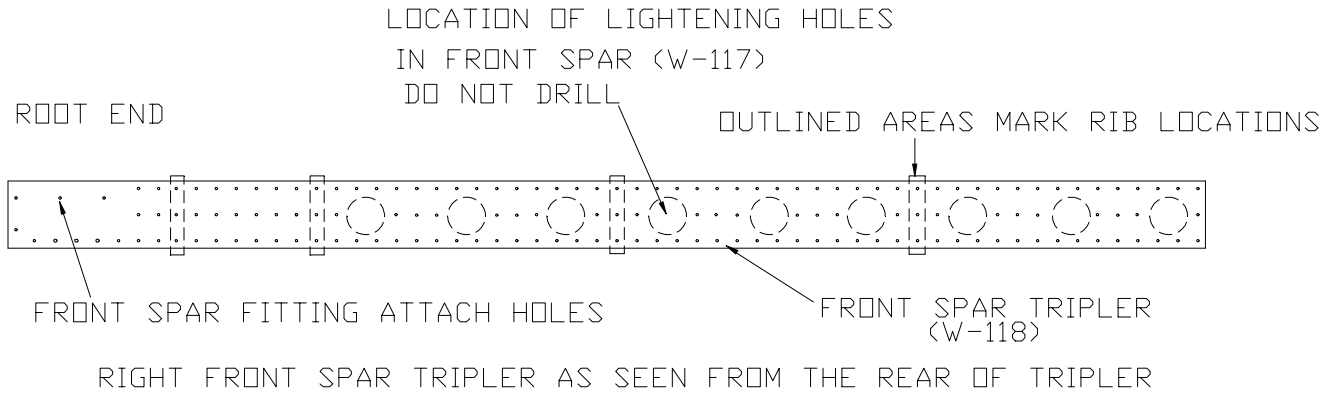

Figure 8.11.4
- 7) Remove the Front Spar Tripler, mark out and drill to # 40 as in Figure 8.11.4.
- 10) Drill out the four Front Spar Fitting attach holes in the Front Spar, Front Spar Doubler and Front Spar Tripler to #11. Figure 8.11.4. **NOTE:** These holes will be drilled to ¼” later.